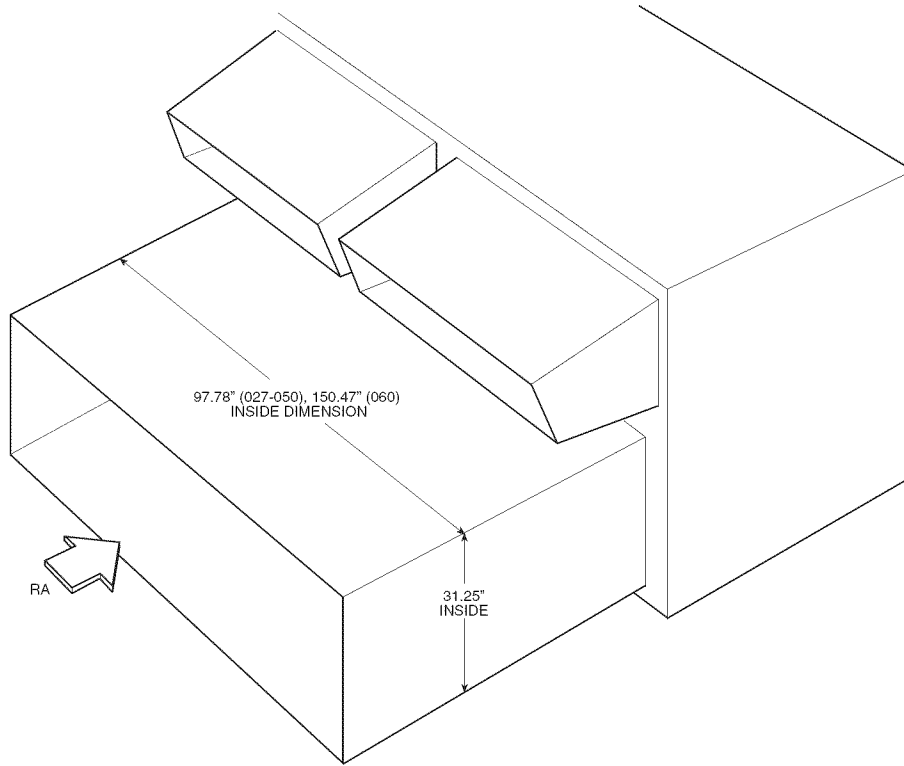

Fig. 36 — Side Return Air Conversion
3. Run the return air ductwork up to the openings. One single duct is recommended to connect to the unit over the return air openings. See Fig. 36. The return duct must incorporate a minimum 3/4-in. flange for connection to the unit cabinet. The unit does not have duct flanges for this conversion.
Side Supply and Return Units (48A4,A5) With Field-Installed Power Exhaust in Return Duct — Space must be available in the return duct to mount the power exhaust fan (gravity relief) modules. Dimensions and suggested locations are shown in Fig. 36. These instructions are a guideline and not a comprehensive procedure. The design contractor must provide some design initiative.